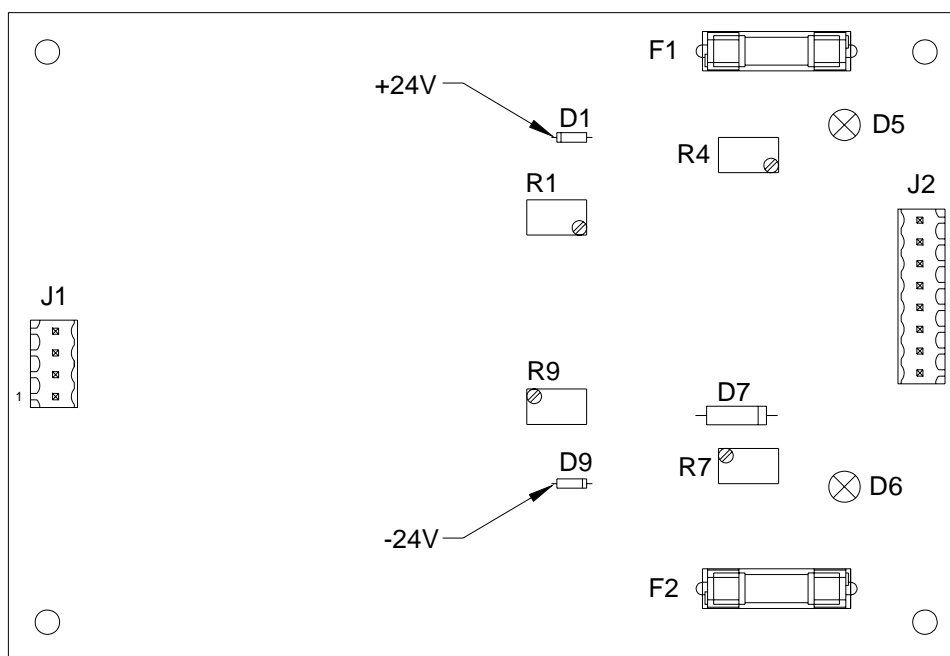

Figure 6-19
3. See Figure 6-19 and measure the voltages according to Table 6-7. Adjust only if the voltages are outside the limits of minimum and maximum.